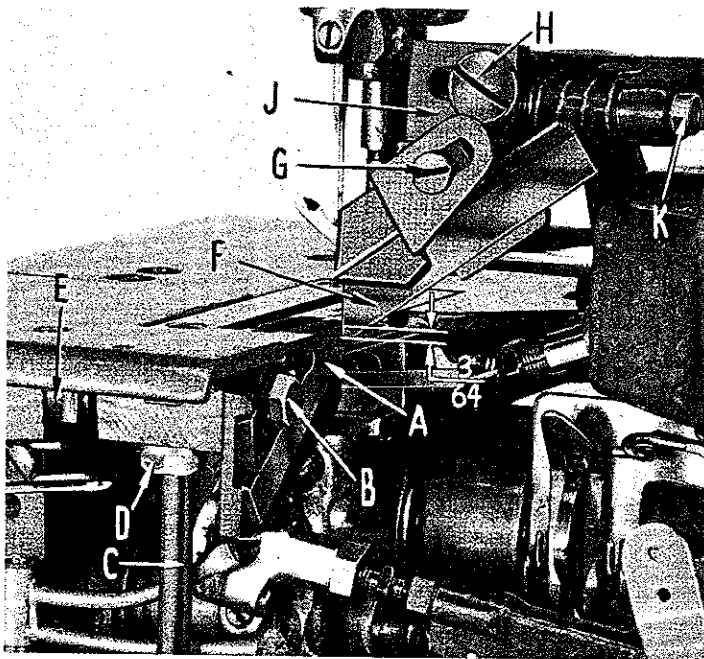

Fig. 12
Turn the handwheel in operating direction until the upper knife arm is in its lowest position. The cutting edge of the upper knife (F, Fig. 12) should overlap the cutting edge of the lower knife by about  $\frac{1}{64}$  inch. Loosen clamp screw (G) to adjust upper knife. Move knife to the left to lower it or to the right to raise it. Tighten clamp screw. To set the spring tension on the upper knife, loosen screw (H), move knife holder block (J) to the left, and while holding it in this position, push knife guide collar shaft (K) to the right to increase spring tension on upper knife and tighten screw (H). Turn handwheel in operating direction until the upper knife is at its highest point of travel, and at this point, the pilot of the upper knife should overlap the lower knife about  $\frac{3}{64}$  inch (Fig. 12).